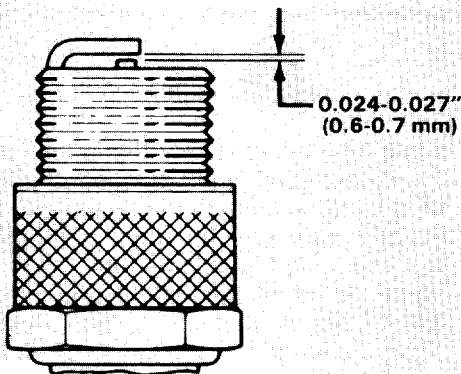

Figure 18
5. Set air gap between center and side of electrodes at 0.024-0.027 of an inch (0.6-0.7 mm) (Fig. 18). Install correctly gapped spark plug w/gasket seal, and tighten plug to 15 ft-lb (20.4 N-m). If torque wrench is not used, tighten plug firmly.